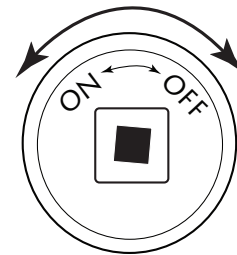

Fig. 10. Key Valve Face
1. Insert key into shut-off valve and secure into square end (See Figs 10 & 11).
1. Insert key into shut-off valve and secure into square end. See Fig. 10.